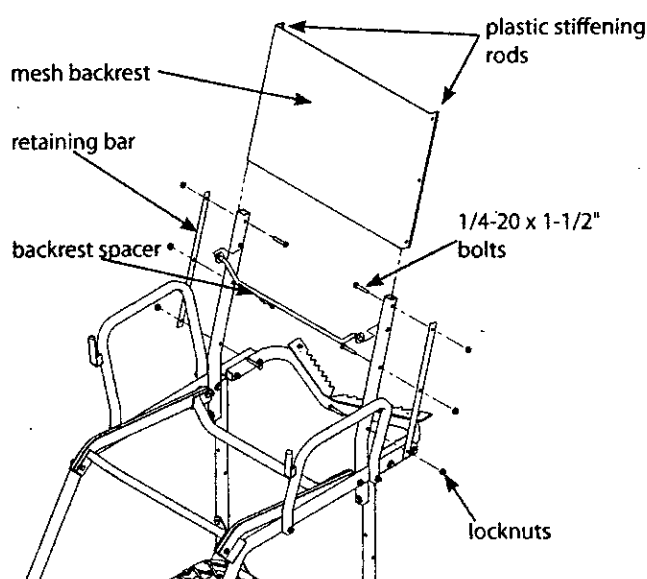

Figure 10
13. Attach the mesh backrest assembly (360021) and the (2) retaining bars (410081) to the backrest mounts using (6) provided 1/4-20 x 1-1/2" bolts and locknuts. **SEE FIGURE 10.** The mesh backrest must wrap around the front side of backrest mounts and the plastic stiffening rod located in the sewn sleeve on each side of the backrest **MUST** be positioned behind the backrest retainer bars to act as a stop and prevent the backrest from pulling out during use. All bolts **MUST** go through the backrest retainer bars, the holes provided in the backrest and the backrest mounts. **SEE FIGURE 10**
14. Insert the backrest spacer (410118) into holes provided on backrest mounts. This must be done prior to any tightening of bolts. **SEE FIGURE 10. You must now tighten all nut & bolt assemblies. Be sure not to over tighten or crush tubing when tightening!**